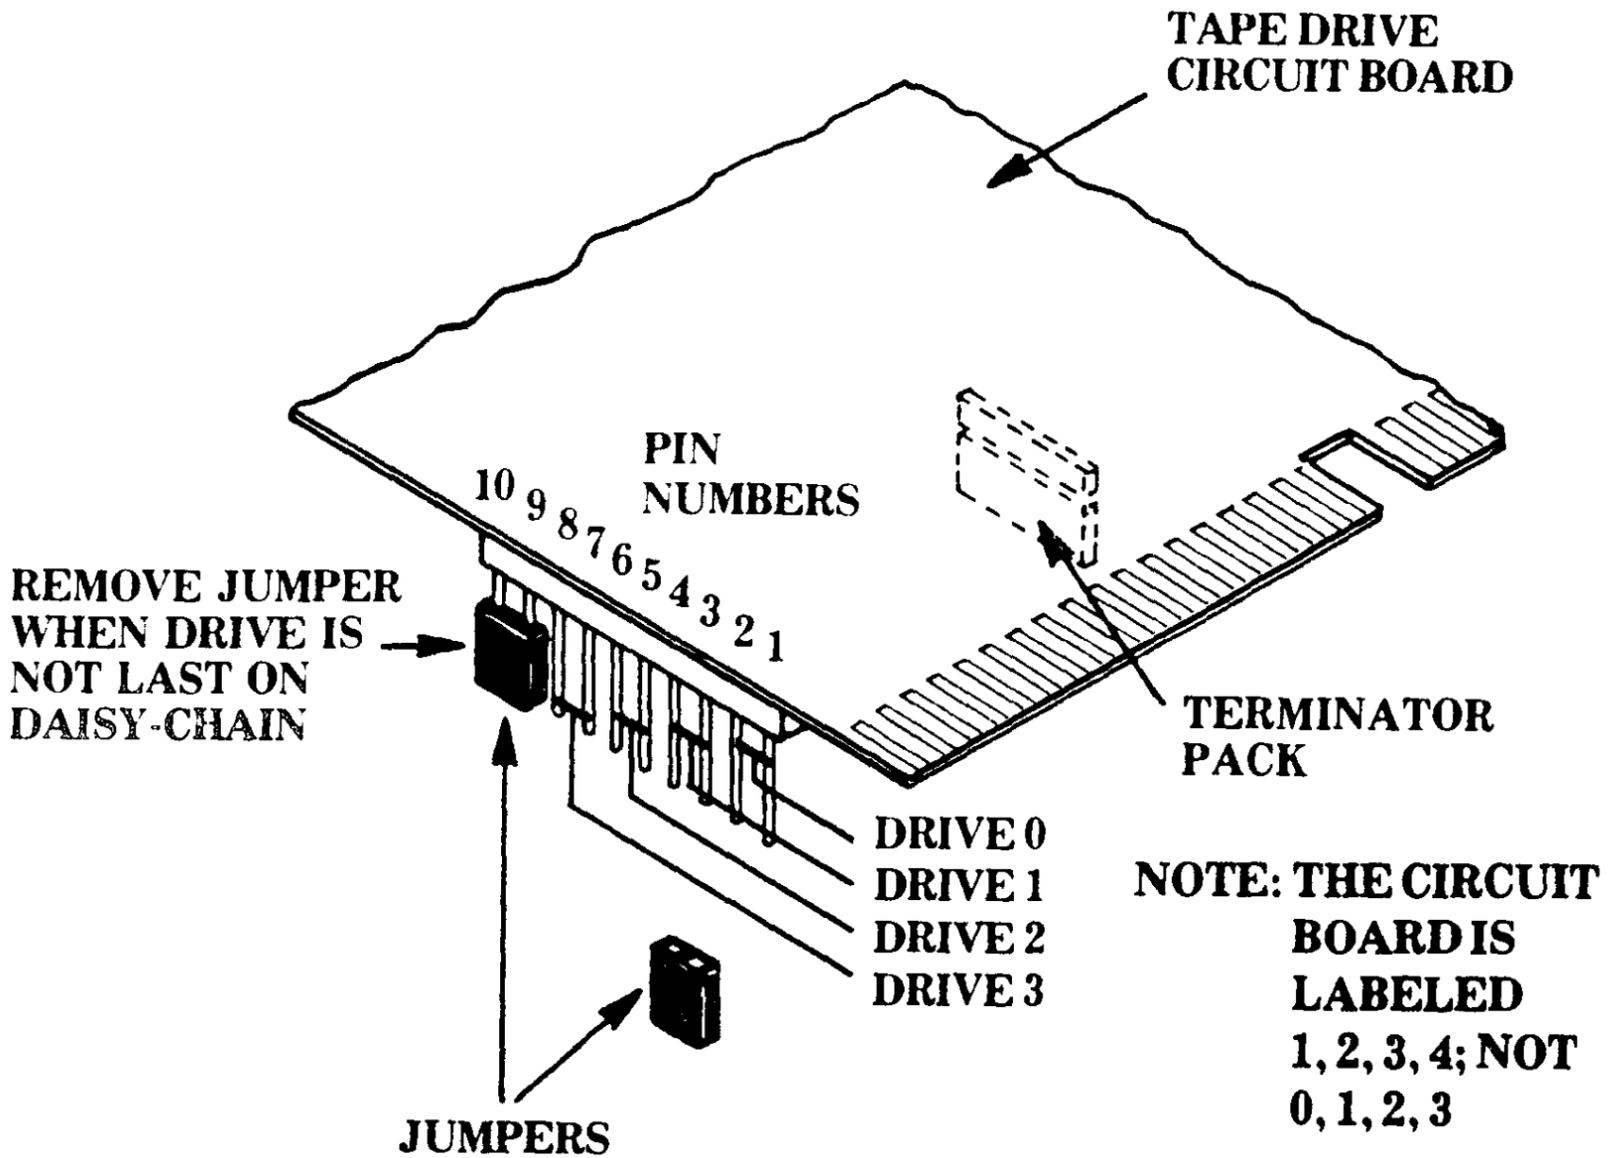

Figure B-1. Drive Assignment Jumpers
2. At the right rear of the drive there are ten pins that project from the circuit board. As shipped from the factory, a jumper block is inserted between pins 7 and 8 and pins 9 and 10 (counting from the rear corner of the board). The first jumper identifies the drive to the computer as Drive 3 (See Figure B-1). Moving that jumper to other pins will identify it as drive 0, 1, or 2:
Pins 9 and 10 must be jumpered on some systems when the drive is connected at the end of the data cable. This jumper (and a terminator pack nearby) engages a cable termination circuit. A similar jumper or switch arrangement will be found on the other drive you are connecting to the same cable. With a multiple drive cable, only the drive at the end of the cable should have this terminator installed. (See Figure B-1.)